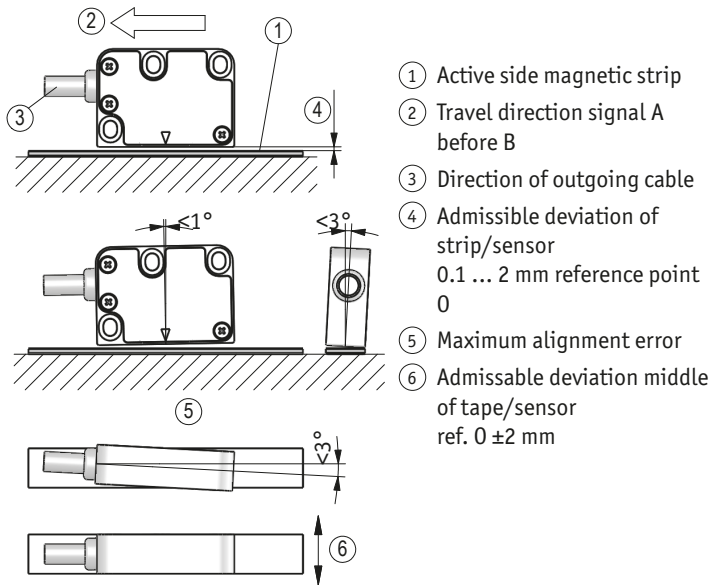

Fig. 7: Definition of the counting direction with magnetic strip and assemblage sensor / magnetic ring, gap measure, tolerances
- ▶ Take care that the magnetic sensor is aligned correctly in order to ensure optimum sensing (see Fig. 7).
- The distance tolerances were not observed over the whole measuring length (see Fig. 7).
- The magnetic sensor has been mounted with the active side turned away from the band (see Fig. 7).
- Magnetic sensor has not been aligned according to Fig. 7